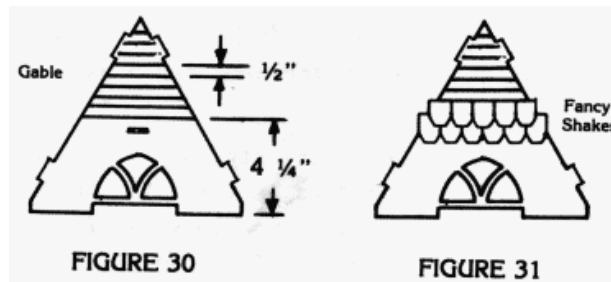

FIGURE 29
3. Glue treads and landing onto staircase (treads with two holes go on the top half of the staircase). The two treads without the dowels are the top two steps. The dowels will be glued in place after installation. See figure 29.
4. Glue staircase in place. See Figure 29.
6. Locate small edge trim. Cut to fit for hand rails up the stairs and around the banister. Figure 29.